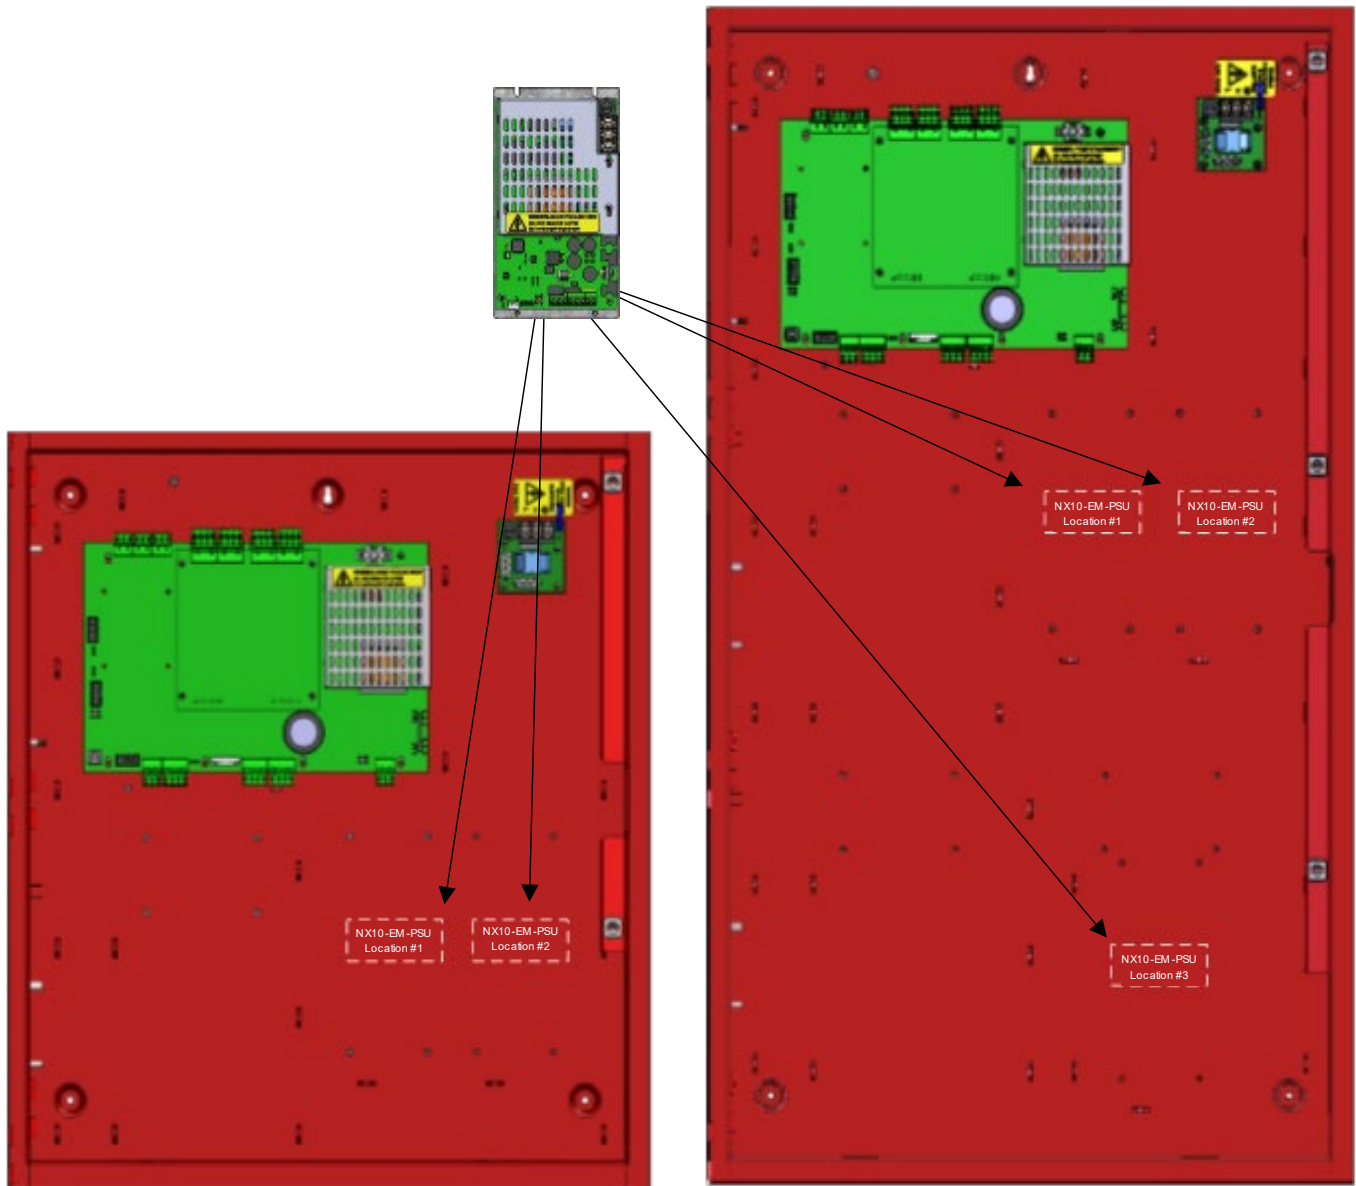

Figure 22 - NX10-EM-PSU6 Mounting Locations
The NX10-EM-PSU6 power supply charger module is a 24 VDC @ 5A filter, regulated power supply and battery charger capable of meeting various installation power requirements including powering the Shield NX10-AMP-80 audio amplifier module. The NX10-CC01-BB (3x3) backbox can support two NX10-EM-PSU6 modules, while the NX10-CC02-BB (3x5) backbox can support three (Figure 22). Each pre-configured command centre includes one NX10-EM-PSU6 power supply charger module.
1. Determine the mounting location within the backbox (Figure 22).
2. Loosely install two (2) of the supplied panhead screws into the top mounting holes of the determined mounting location.
3. Carefully slid the NX10-EM-PSU6 module's top keyed mounting tabs under the two (2) previously installed panhead screws and tighten the screws.
4. Insert and tighten the remaining two (2) panhead screws at the bottom of the NX10-EM-PSU6 module.